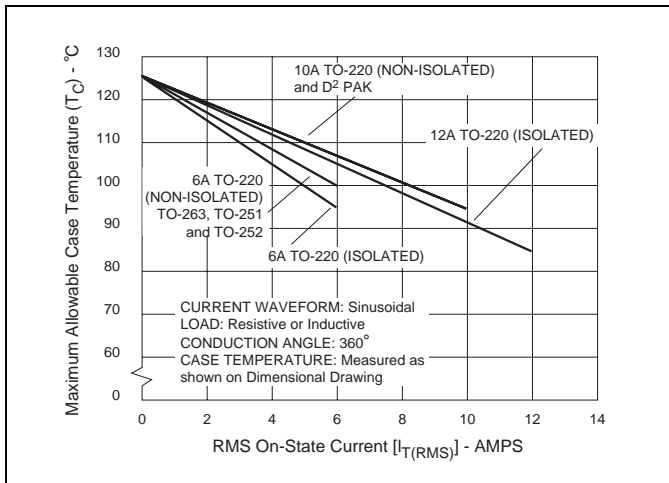
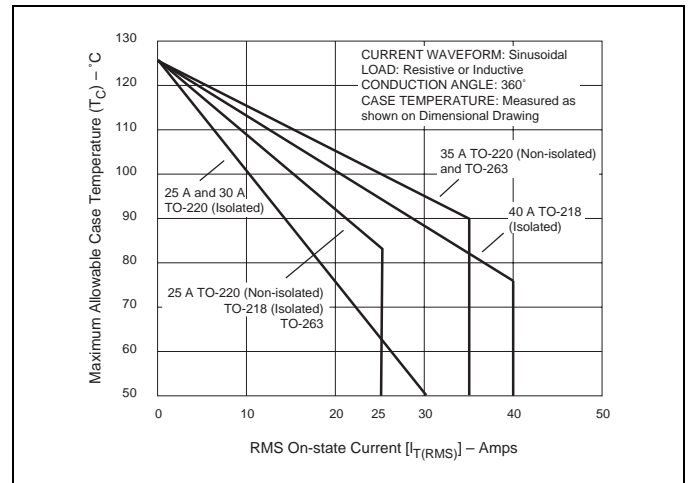
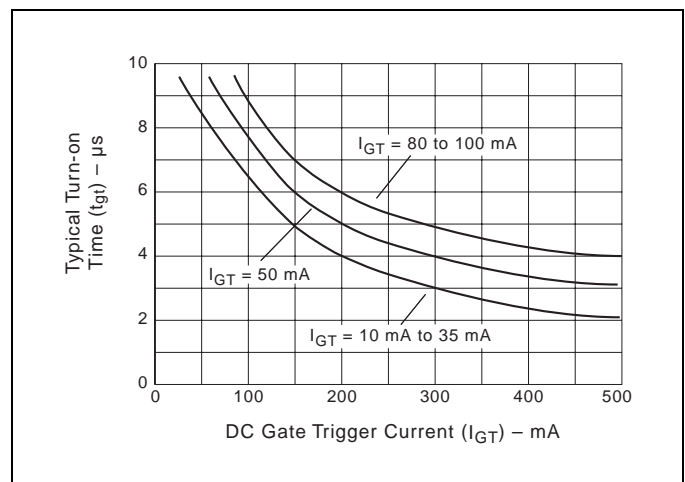

Figure E4.1 Maximum Allowable Case Temperature versus On-state Current (6 A to 12 A)
Figure E4.4 Maximum Allowable Case Temperature versus On-state Current (25 A to 40 A)
Figure E4.12 Turn-on Time versus Gate Trigger Current (Typical)
- See Figure E4.1 through Figure E4.4 for current rating at specific operating temperature and Figure 4.16 for free air rating (no heat sink).
- (10) See Figure E4.12 for t_{gt} versus I_{GT} .
- (11) See package outlines for lead form configurations. When ordering special lead forming, add type number as suffix to part number.
- (12) Initial on-state current = 400 mA dc for 16 A to 40 A devices and 100 mA for 6 A to 12 A devices.
- (13) See Figure E4.1 through Figure E4.4 for maximum allowable case temperature at maximum rated current.
- (14) Pulse width $\leq 10 \mu s$; $I_{GT} \leq I_{GTM}$
- (15) For 6 A to 12 A devices, $R_L = 60 \Omega$; 16 A and above, $R_L = 30 \Omega$
- (16) 40 A pin terminal leads on K package can run 100 °C to 125 °C.
- (17) Alternistor does not turn on in Quadrant IV.
- (18) $T_C = T_J$ for test conditions in off state
- (19) $I_{GT} = 200$ mA for 6 A to 12 A devices and 500 mA for 16 A to 40 A devices with gate pulse having rise time of $\leq 0.1 \mu s$.
- (20) Minimum non-trigger V_{GT} at 125 °C is 0.2 V.